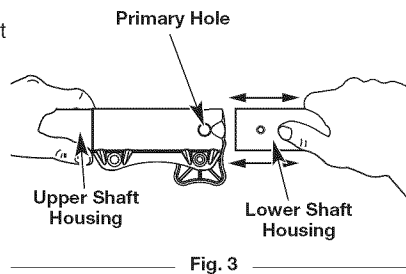

Fig. 3
2. While firmly holding the attachment, push it straight into the Convertible™ coupler until the release button snaps firmly into the primary hole (Fig. 3).
3. While firmly holding the upper shaft housing, pull the attachment straight out of the Convertible™ coupler (Fig. 3).